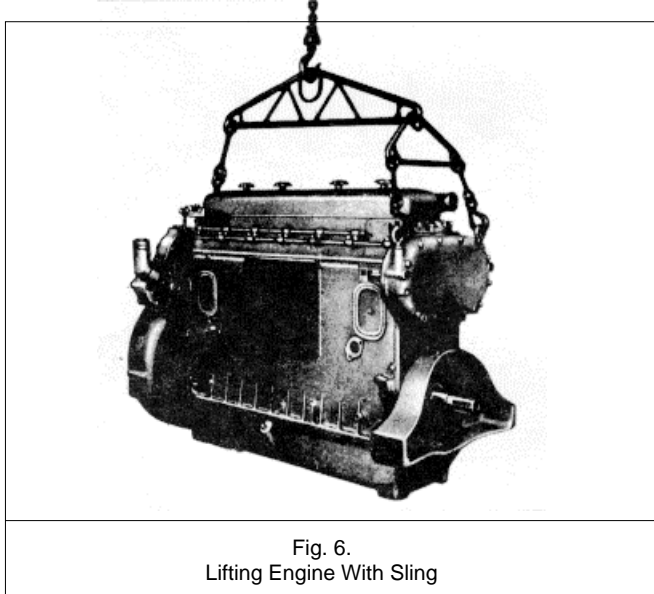

Fig. 6.
- (5) Remove the turbocharger, if used.
- (6) Disconnect the exhaust piping and remove the exhaust manifold.
- (7) Disconnect the throttle controls.
- (8) Disconnect and remove the starting motor, battery-charging generator and other electrical equipment.
- (9) Remove the air compressor, if used.
- (10) Remove the radiator and fan guard or the heat exchanger and other related cooling system parts.
- (11) Remove the air box covers.
- (12) Disconnect any other lubricating oil lines, fuel lines or electrical connections.
- (13) Separate the engine from the drive mechanism.
- (14) Remove the engine mounting bolts.
- (15) Use a sling with a spreader bar (Fig. 6) and lift the engine from its base.